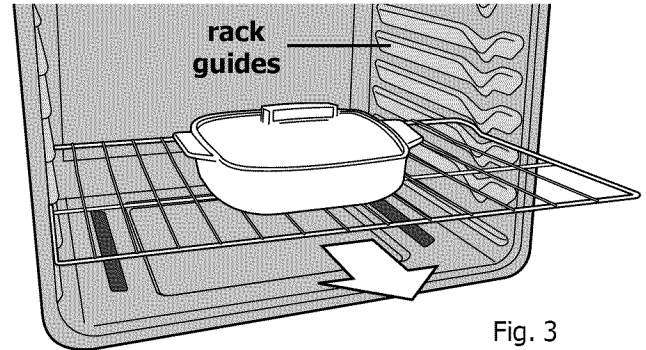
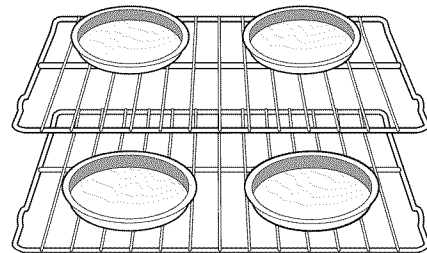

Fig. 3
Fig. 1
Most flat and offset oven racks slide on rack guides provided along the oven cavity sides. For better access to food items in the oven, **slowly** pull the oven rack straight out to the oven rack stop position before checking on food items or removing food dishes from the oven (Fig. 3).
For best baking results allow 2-4" (5-10 cm) around the cookware for proper air circulation and be sure pans and cookware do not touch each other, the oven door, sides or back of the oven cavity. For even heating, hot air must be able to circulate freely around the pans and cookware (See Fig. 1).
4. Assemble one connector arm at a time. With the oven door open and the oven rack in place, install one end of the connector arm to the hole in the **door connector bracket** (Fig. 1) and the other end in the hole in the **rack connector bracket** (Fig. 2 and as in Fig. 3). The oven rack may need to be adjusted in or out in the rack position to match the length of the connector arm.